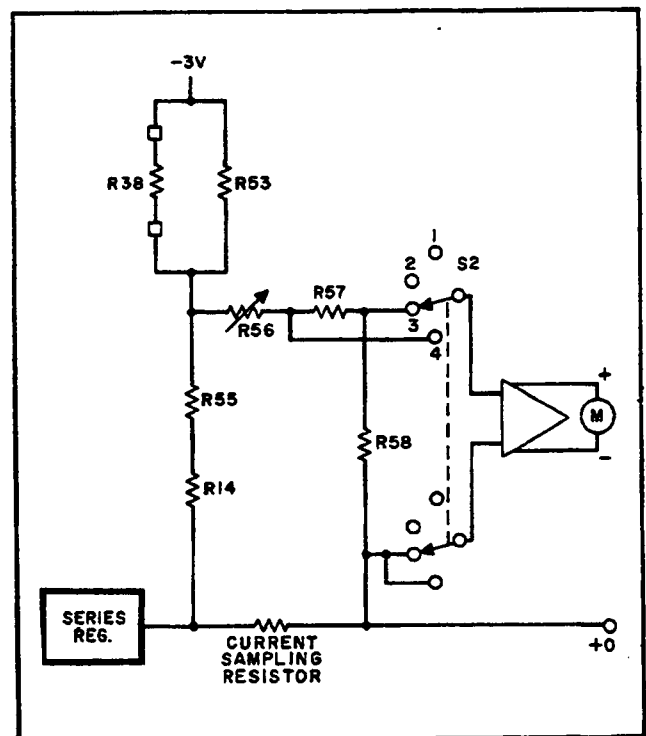

Figure 4-6. Ammeter Connections, Simplified Schematic
4-51 With S2 in the higher current range position (Figure 4-6) the voltage drop across R58 is applied to the meter amplifier and the meter indicates the output current which flows through R54. For low values of output current, S2 can be switched to position (4) and the voltage drop across R57 and R58 is applied to the meter amplifier.